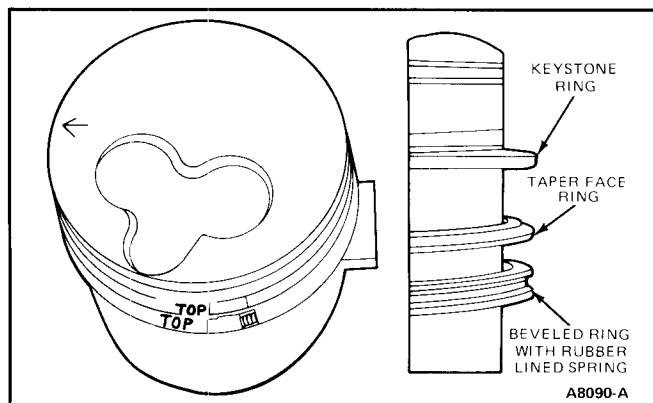

FIG. 59 Piston Ring Spacing
3. Make sure ring gaps are properly spaced around circumference of piston (Fig. 59).